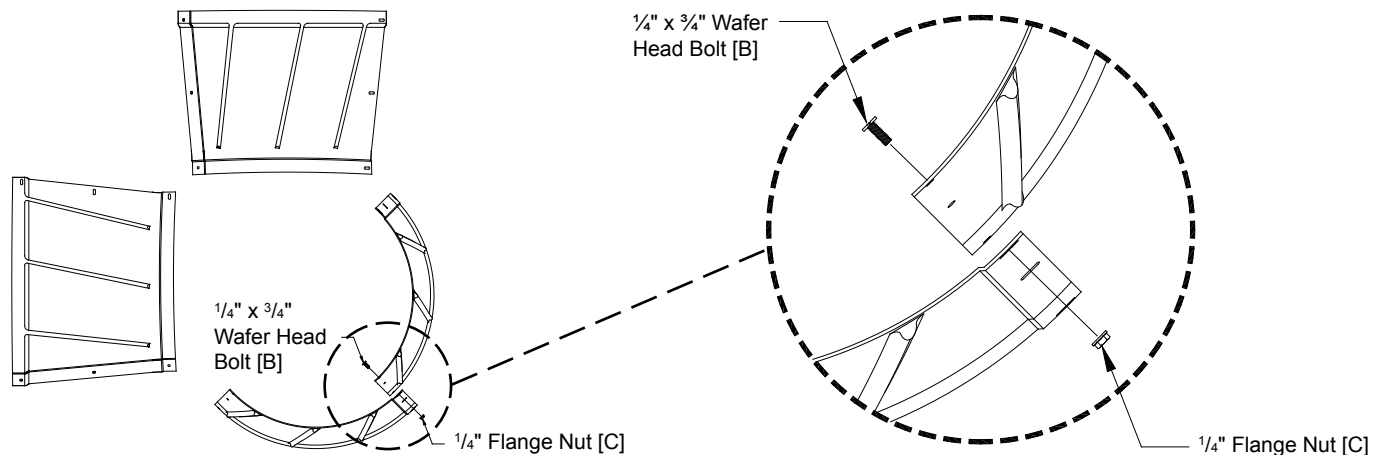

Figure 5A
Stand (2) cone sections up and fasten with (2) Fastener [B] and [C] in the upper 2 holes. **See Figures 5A and 5B.** Finger tighten only.